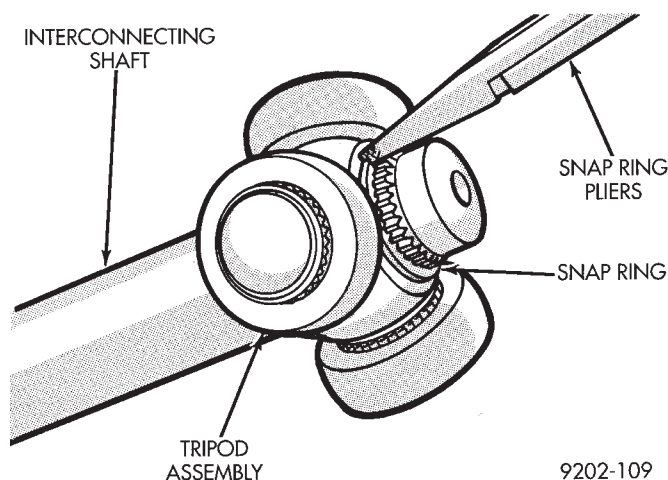

Fig. 20 Outer Snap Ring Installation
(4) Install the outer tripod assembly to intermediate shaft retaining snap ring into the snap ring groove on the intermediate shaft (Fig. 20).